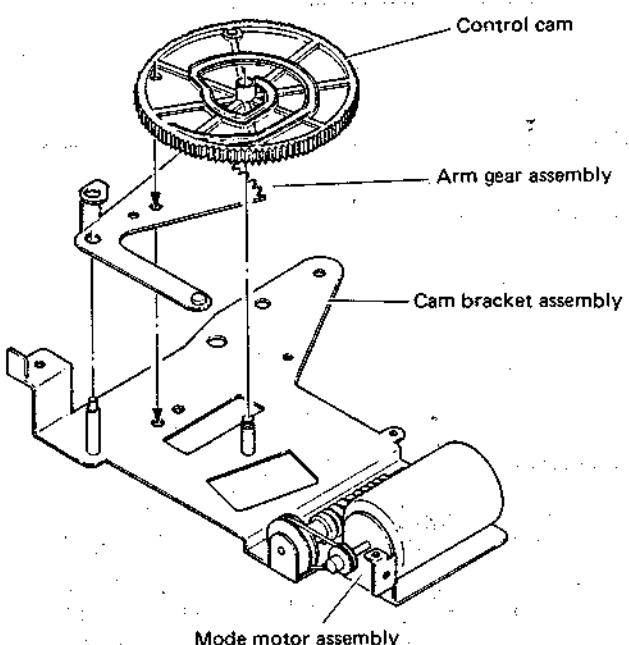

Fig. 1-3-3 Control cam
- Install the control cam on the cam bracket assembly so that the hole of the control cam overlaps the hole which is indicated in the step 1), as shown in Fig. 1-3-3. Do not turn the control cam from this position for the next step.